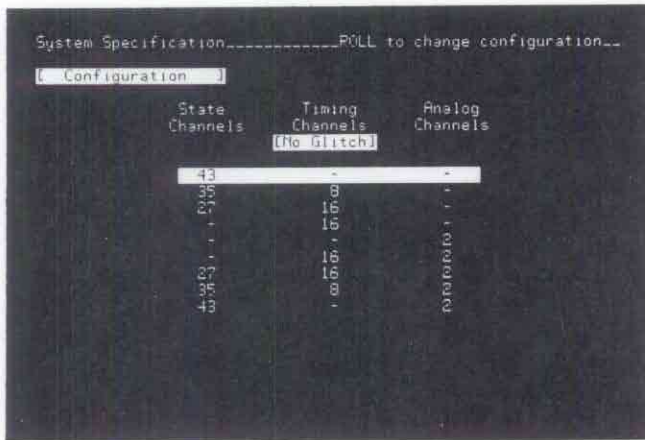

Figure 42
**Setup:** push the SYSTEM key at the top left of the keyboard and roll the configuration bar to the top as shown in figure 42. This configures the analyzer for 43 state channels.